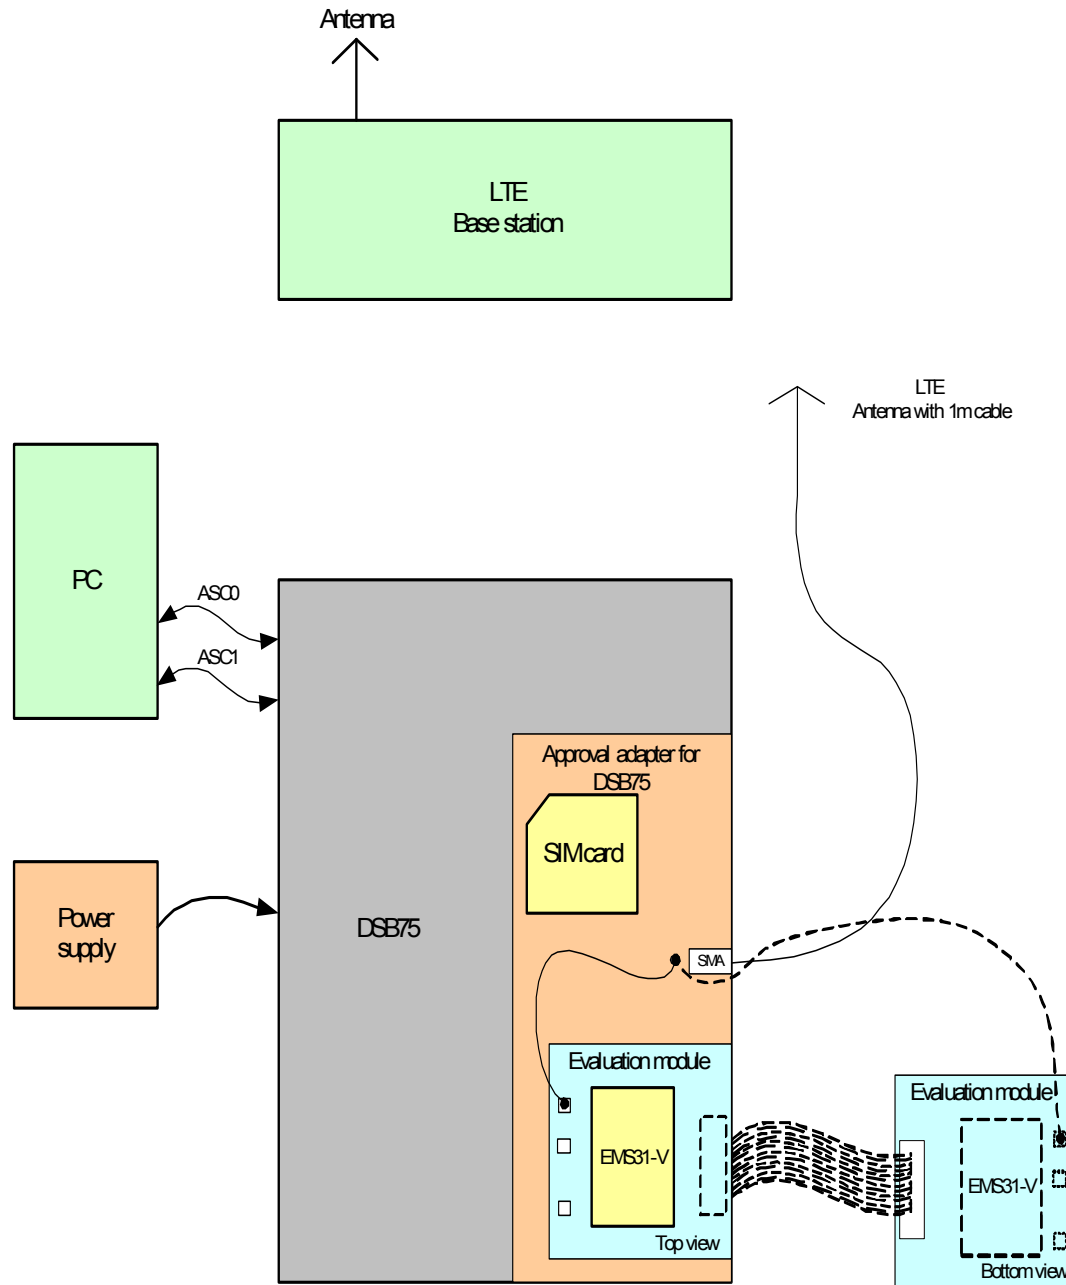

**Figure 9:** Reference equipment for Type Approval
1. For RF performance tests a mini-SMT/U.FL to SMA adapter with attached 6dB coaxial attenuator is chosen to connect the evaluation module directly to the LTE test equipment instead of employing the SMA antenna connectors on the EMS31-V-DSB75 adapter as shown in Figure 9. The following products are recommended: